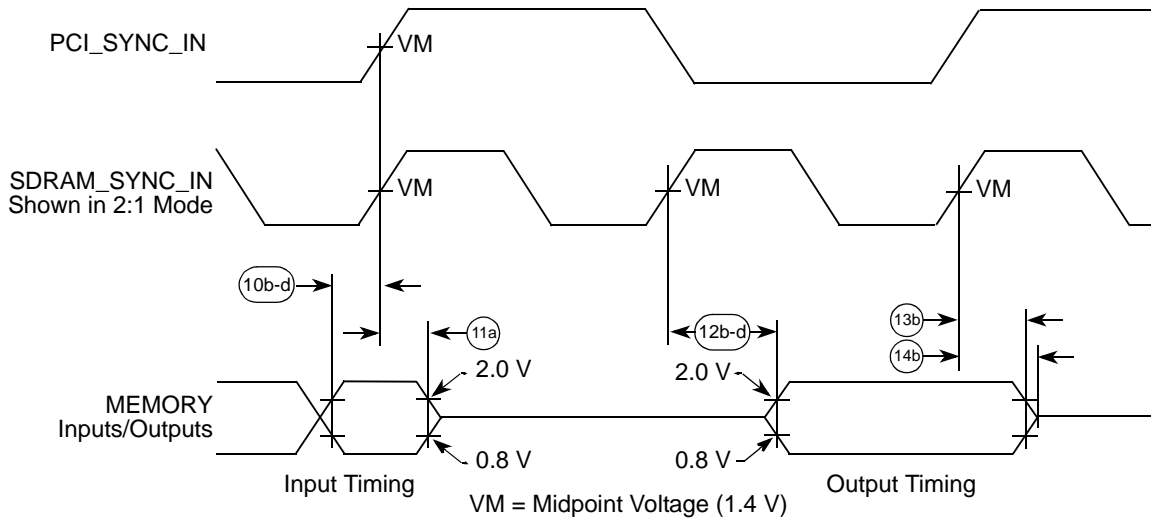
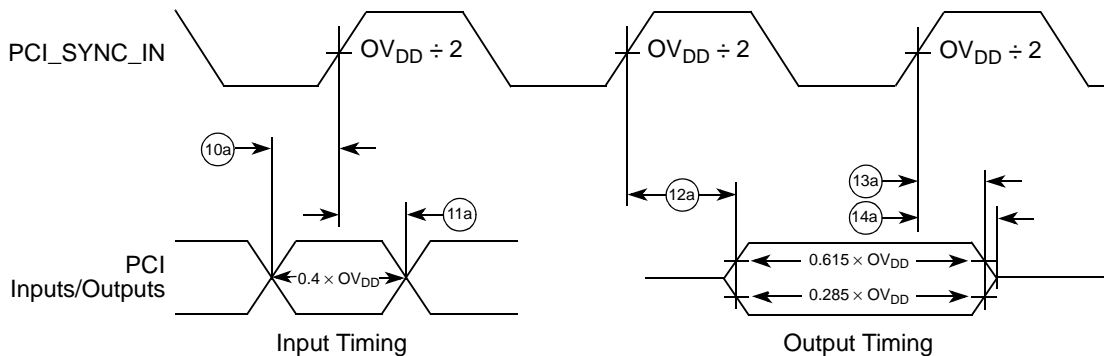
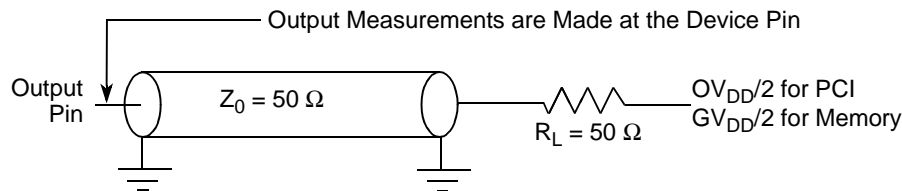

Figure 8. Input-Output Timing Diagram Referenced to SDRAM_SYNC_IN
Figure 9. Input-Output Timing Diagram Referenced to PCI_SYNC_IN
Figure 11. AC Test Load for the MPC8240
Table 8 provides the input AC timing specifications. See Figure 8 and Figure 9 for the input-output timing diagrams referenced to SDRAM_SYNC_IN and PCI_SYNC_IN, respectively.
- All memory and related interface input signal specifications are measured from the TTL level (0.8 or 2.0 V) of the signal in question to the $V_M = 1.4 \text{ V}$ of the rising edge of the memory bus clock, SDRAM_SYNC_IN. SDRAM_SYNC_IN is the same as PCI_SYNC_IN in 1:1 mode, but is twice the frequency in 2:1 mode (processor/memory bus clock rising edges occur on every rising and falling edge of PCI_SYNC_IN). See Figure 8.
- All PCI signals are measured from $OV_{DD}/2$ of the rising edge of PCI_SYNC_IN to $0.4 \times OV_{DD}$ of the signal in question for 3.3-V PCI signaling levels. See Figure 9.
Table 9 provides the processor bus AC timing specifications for the MPC8240. See Figure 8 and Figure 9 for the input-output timing diagrams referenced to SDRAM_SYNC_IN and PCI_SYNC_IN, respectively. Figure 11 shows the AC test load for the MPC8240.
- All memory and related interface output signal specifications are specified from the $V_M = 1.4 \text{ V}$ of the rising edge of the memory bus clock, SDRAM_SYNC_IN to the TTL level (0.8 or 2.0 V) of the signal in question. SDRAM_SYNC_IN is the same as PCI_SYNC_IN in 1:1 mode, but is twice the frequency in 2:1 mode (processor/memory bus clock rising edges occur on every rising and falling edge of PCI_SYNC_IN). See Figure 8.
- All PCI signals are measured from $OV_{DD}/2$ of the rising edge of PCI_SYNC_IN to $0.285 \times OV_{DD}$ or $0.615 \times OV_{DD}$ of the signal in question for 3.3-V PCI signaling levels. See Figure 9.
- All output timings assume a purely resistive 50- Ω load (see Figure 11). Output timings are measured at the pin; time-of-flight delays must be added for trace lengths, vias, and connectors in the system.
- PCI hold times can be varied; see Section 1.4.2.4.1, "PCI Signal Output Hold Timing," for information on programmable PCI output hold times. The values shown for item 13a are for PCI compliance.